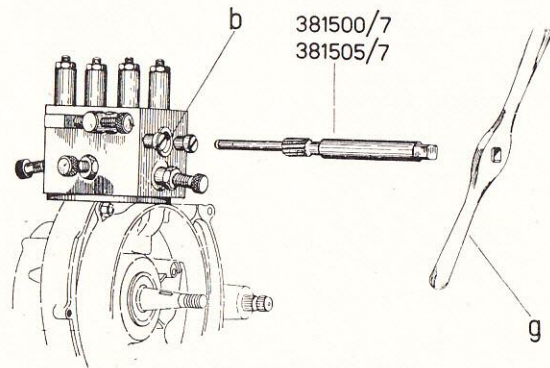

Fig. 86.
4. Ream the bush by inserting reamer 381500/7, shown in Fig. 86, into the guide hole "b" of part "a" of fixture T. 0022532, and turning it through by means of a tap wrench "g." Use reamer 381505/7 for 1st o/size bushes.